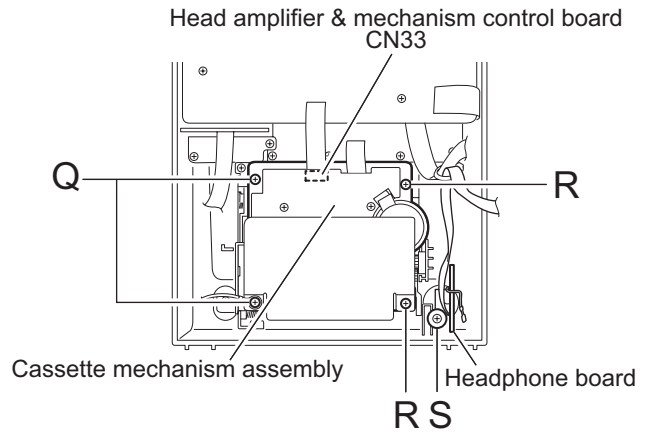

Fig.28
3.2.1 Removing the cassette mechanism assembly (See Fig.28)
- (1) Disconnect the card wire from connector CN33 on the head amplifier & mechanism control board.
- (2) Remove the two screws **Q**, and the two screws **R** attaching the cassette mechanism assembly.
3.2.2 Removing the headphone board (See Fig.28)